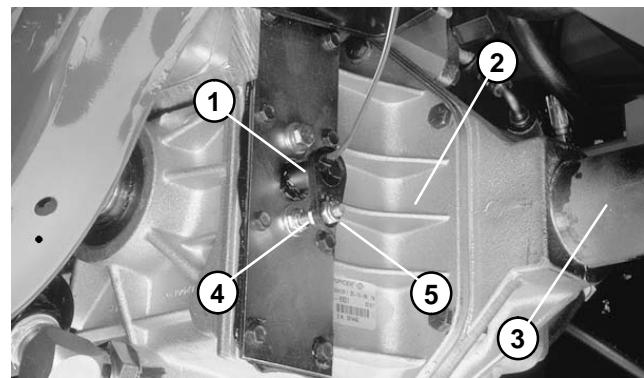

Figure 51
- IMPORTANT: The position of the sensor within the gear box is very critical for proper operation. When removing the sensor, do not change the position of the jam nut. A new sensor must be replaced in the same position as the old sensor (Fig. 51).**